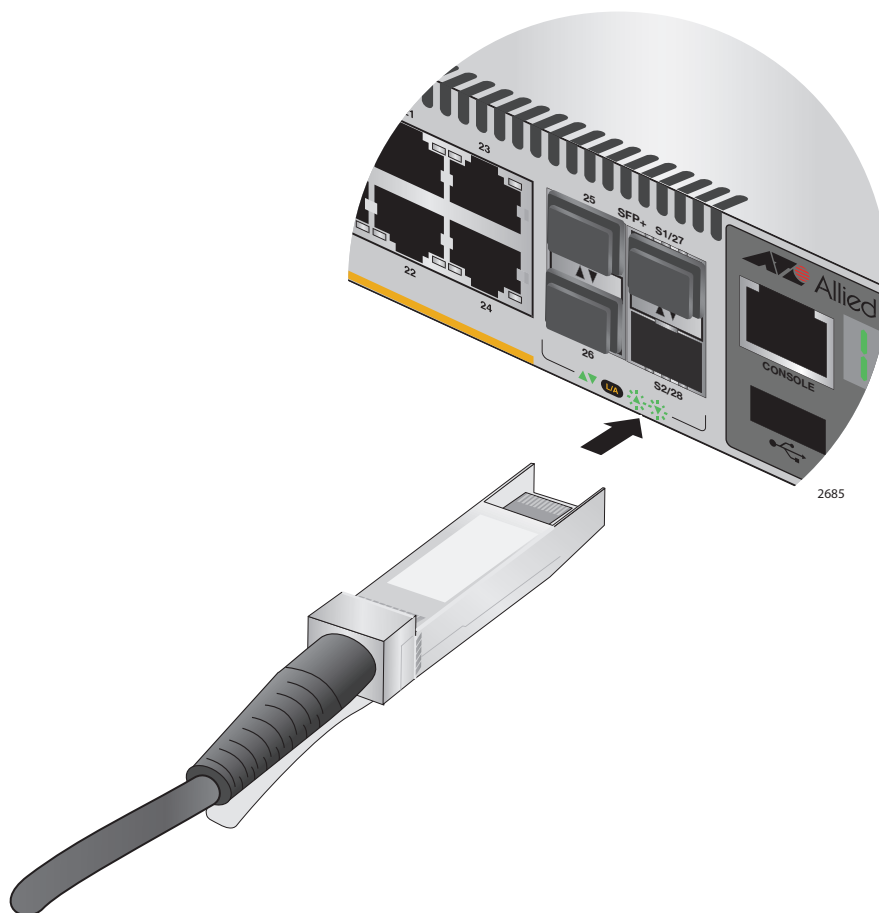

Figure 54. Installing the AT-StackXS/1.0 Transceiver in Slot S2
7. Position the transceiver with the release tab on the bottom and slide it into the slot until it clicks into place, as shown in Figure 54 on page 96.